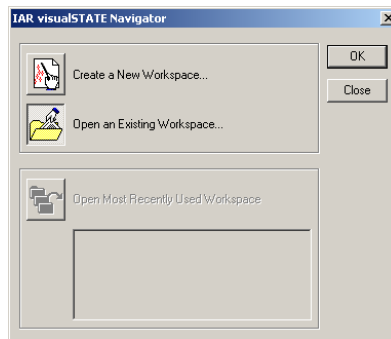

Figure 4: Navigator opening dialog box
- 1 Launch the Navigator via the Windows Start menu. A Navigator opening dialog box is displayed. See *Figure 4*, page 12.